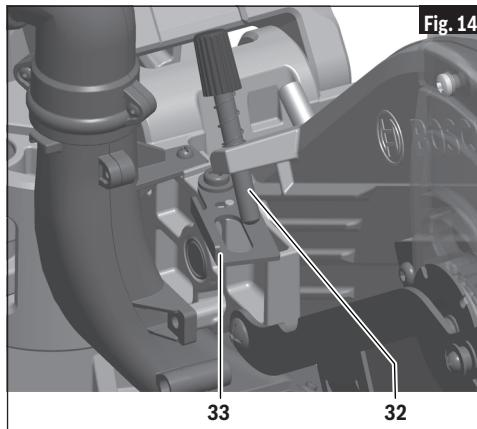

Fig. 14
2. Pull the depth stop plate out away from the saw head (see Fig. 14).
3. Grip the main handle (item 3 – page 12) and push down the saw head while watching the depth stop screw contact the top surface of the depth stop plate. The screw will not pass through the hole in the plate.